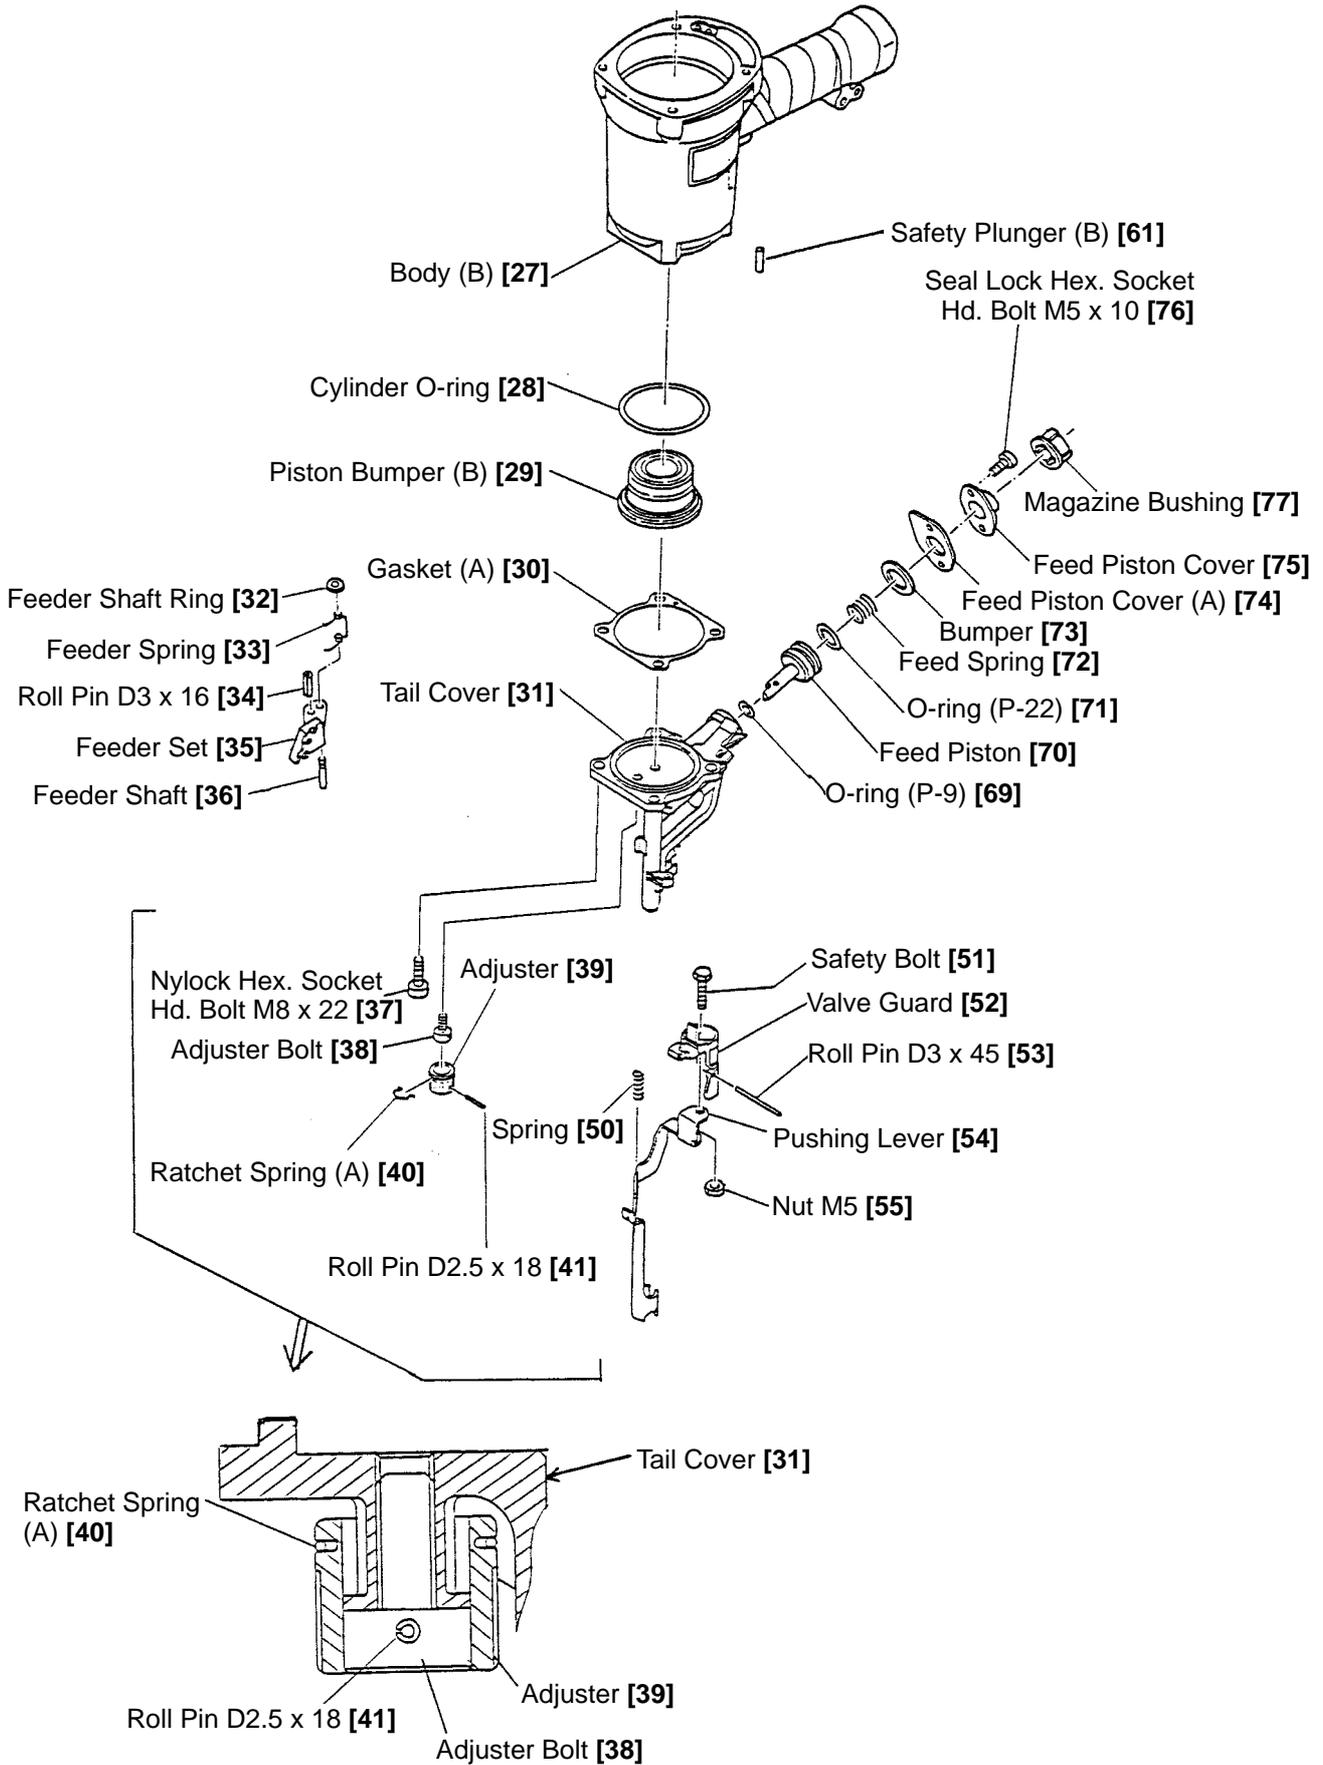

Fig. 17 Disassembly and reassembly of the driving section
(1) Tail Cover [31], Pushing Lever [54] and the related parts (See Fig. 17.)
(a) Disassembly (See Fig. 17.)
(3) Disassembly and reassembly of Adjuster [39] (See Fig. 17.)